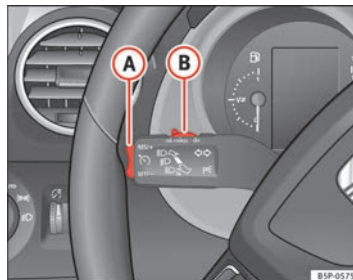

Fig. 149 Turn signal and main beam headlight lever: switch and rocker switch for the cruise control
- Push the switch ⇒ Fig. 149 (A) to the left to ON.